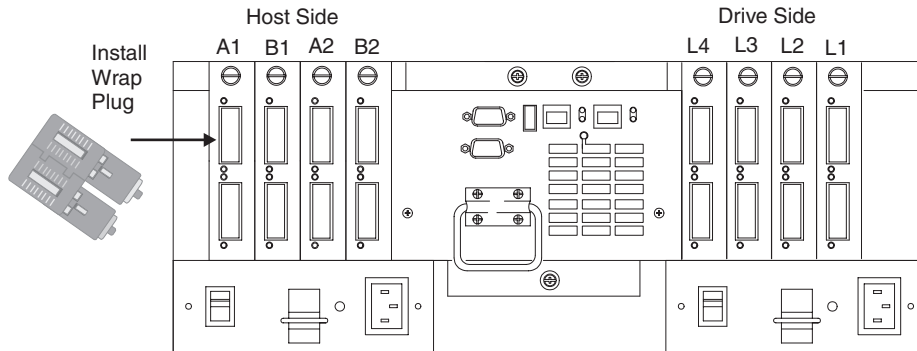

Figure 59. Install wrap plug to GBIC in mini-hub on controller A
- b. For a Type 3552 or 1742 controller, install a wrap plug to the GBIC in the mini-hub on controller A. See Figure 59.